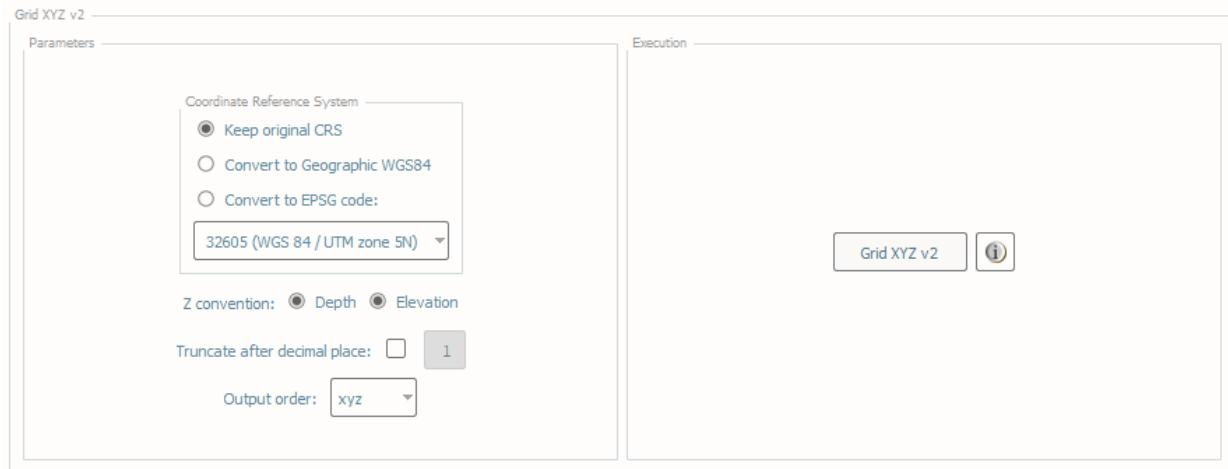

Fig. 2.63: Grid XYZ's interface.
- In **Execution** (Fig. 2.63), click **Grid XYZ v2**.